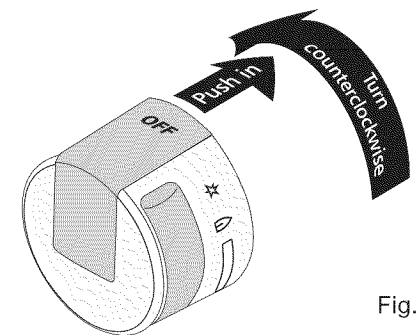

Fig.1
- Push the desired gas surface control knob in and turn counterclockwise out of the OFF position -*Fig.1*.